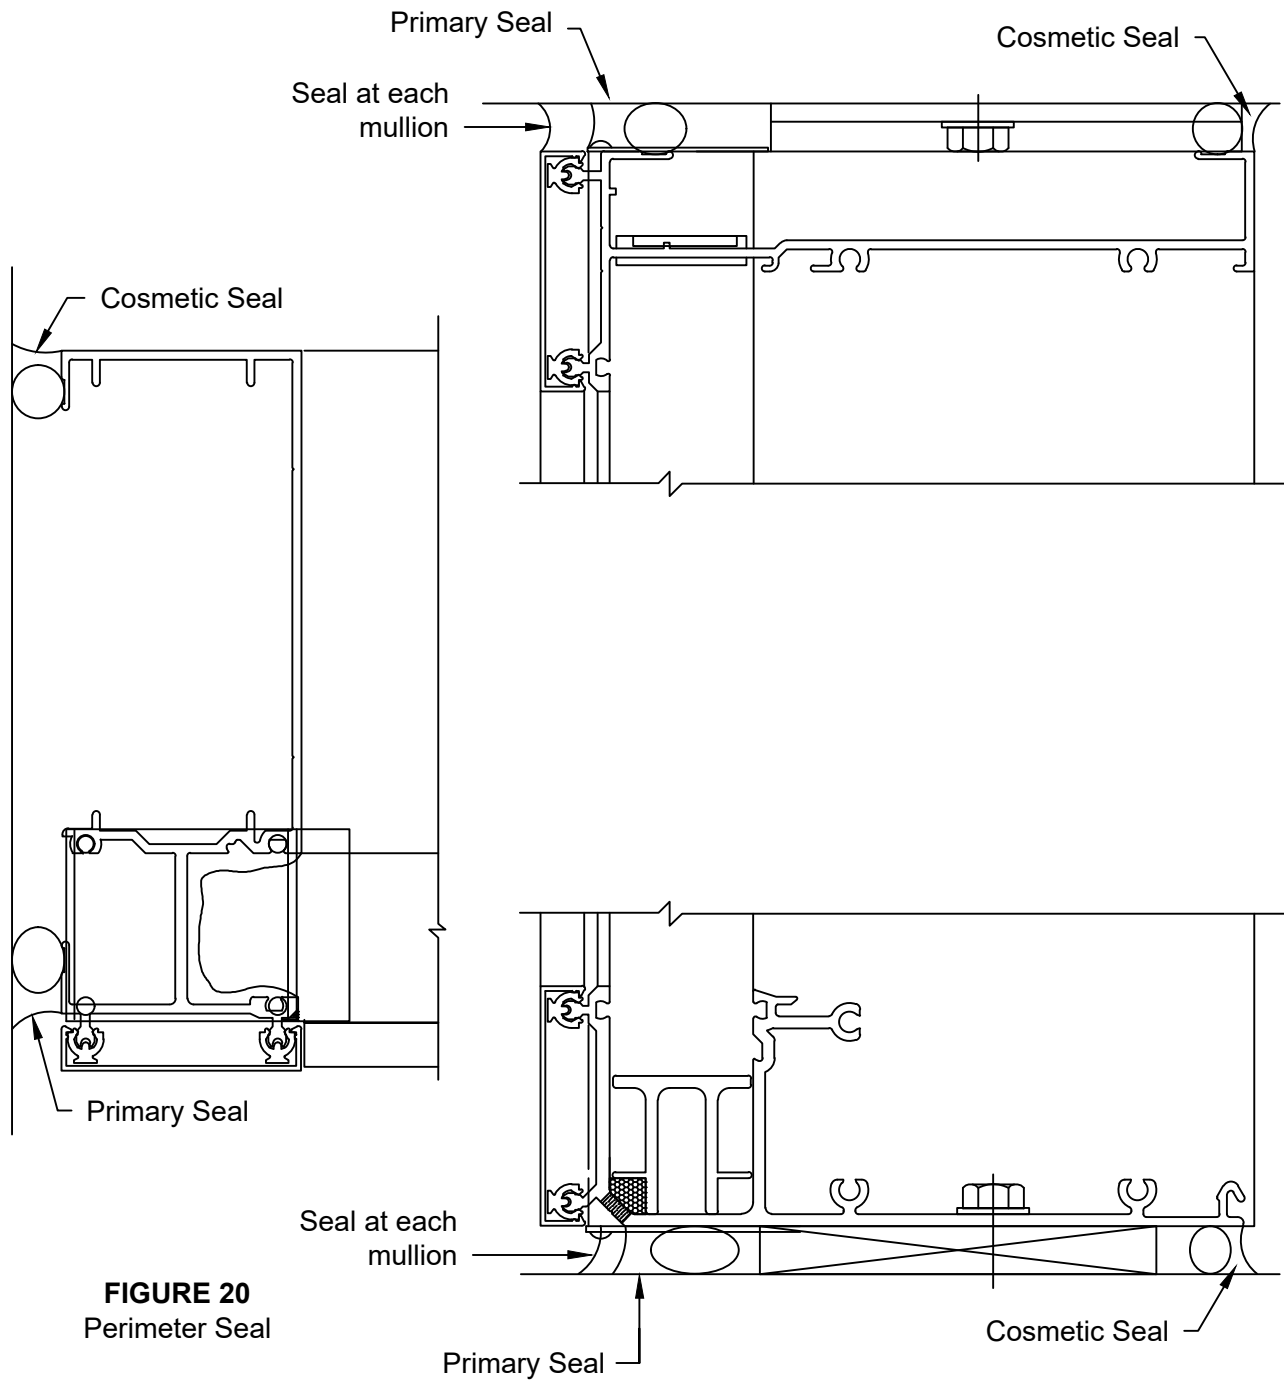

FIGURE 20
- 3.12 When all framing members are installed, apply perimeter seal. **SEE FIGURE 20.** The interior perimeter seal is not required for system performance, but can be installed for cosmetic purposes.